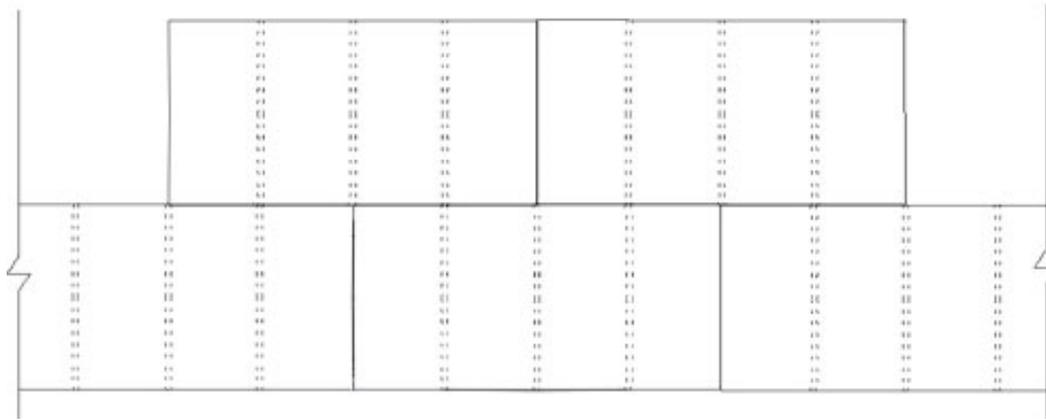

Fig. 28
6. Install subsequent rows of insulation board in a running bond pattern (vertical joints staggered) as shown in Figure 28.